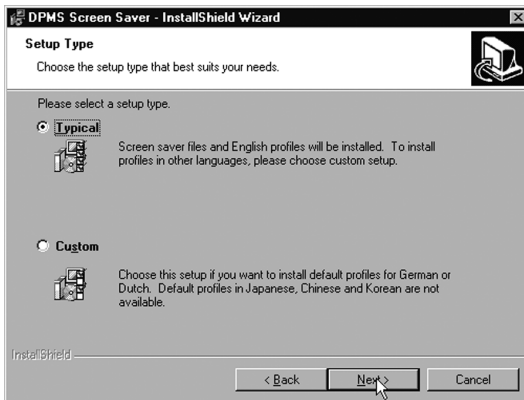

Figure 14
17. The “Setup Type” page will now appear (figure 14). Choose “**Typical**” to install the default schemes with English names. Choose “**Custom**” to install the default schemes with either Dutch or German names. Currently the default schemes are not supported in the Japanese, Korean and Chinese languages. We recommend that the users of these three languages install the English default schemes and then rename and save them into their language in the DPMS configuration screen. Click “**Next**” to continue.